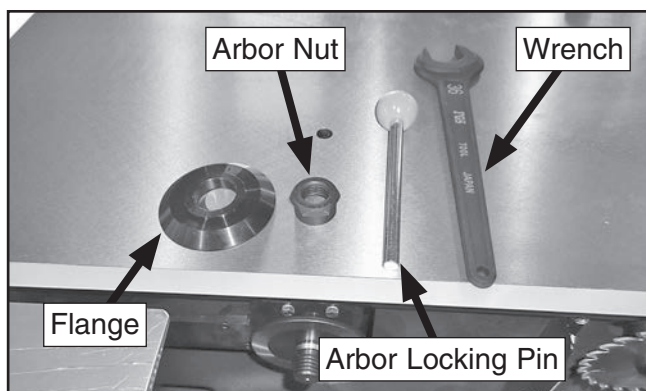

Figure 38. Main blade arbor parts and tools for changing blade.
26. Continue unthreading arbor nut clockwise (it has left-hand threads) until you can remove flange (see **Figure 38**).